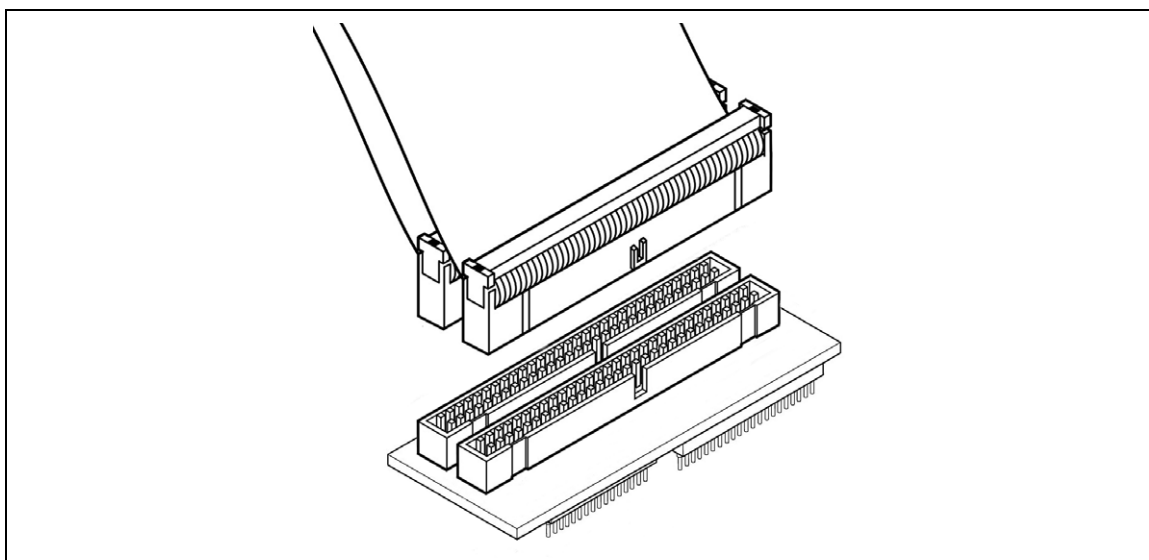

Figure 6: Connecting the two 50-pin flat cables to the SDIP adapter
- 3 Connect the other end of the two 50-pin flat cables to the adapter provided with standard kit (ref.: DB529), as shown in *Figure 6*.